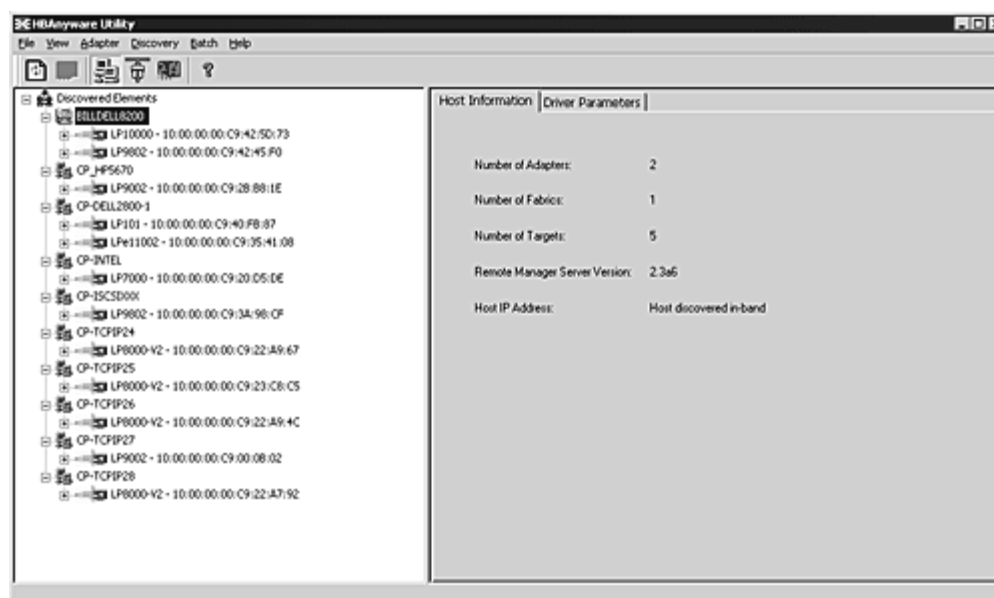
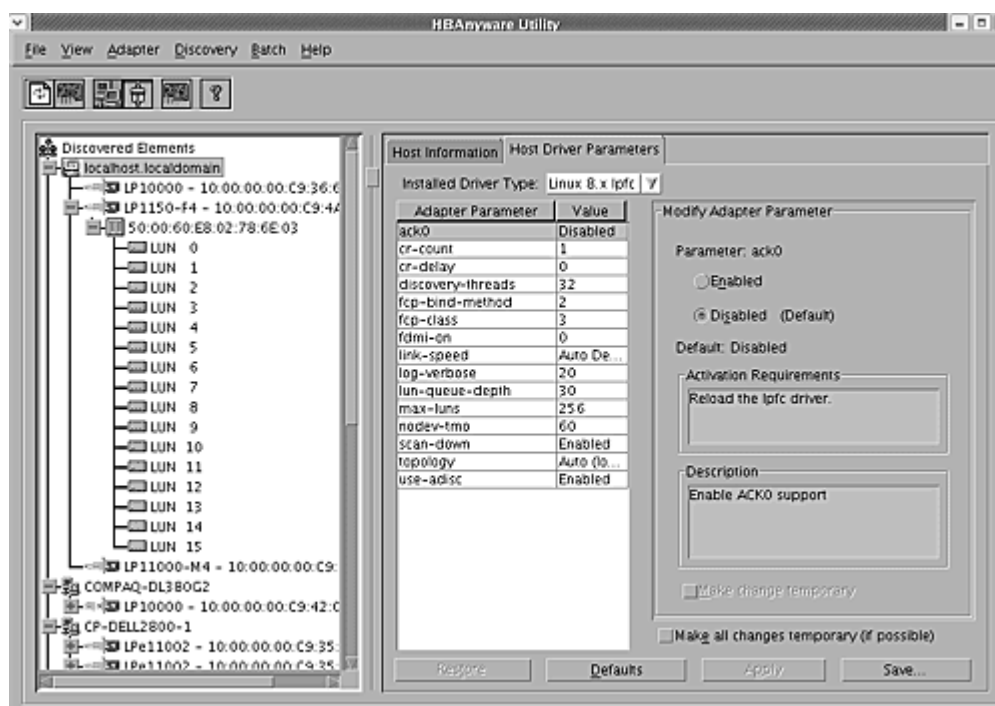

Figure 9: HBAnyware Utility, Host Information Tab
Figure 10: HBAnyware Utility, Driver Parameters Tab - Host Selected
4. Select the **Host Information** tab (see Figure 9) or the **Host Driver Parameters** tab (see Figure 10).
The **Host Driver Parameters** tab (Figure 10) enables you to view and edit the HBA driver settings contained in a specific host. The host driver parameters are global values and apply to all HBAs in that host unless they are overridden by parameters assigned to a specific HBA using the **HBA Driver Parameters** tab. For each parameter, the tab shows the current value, the range of acceptable values, the default value, and whether the parameter is dynamic (a dynamic parameter allows the change to take effect without resetting the HBA or rebooting the system).